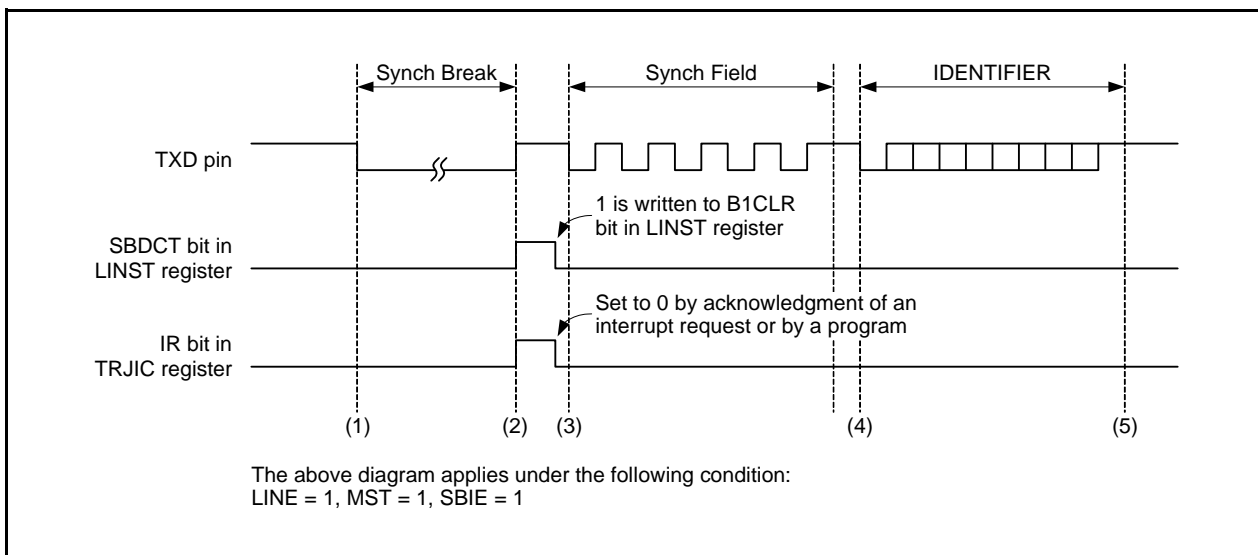
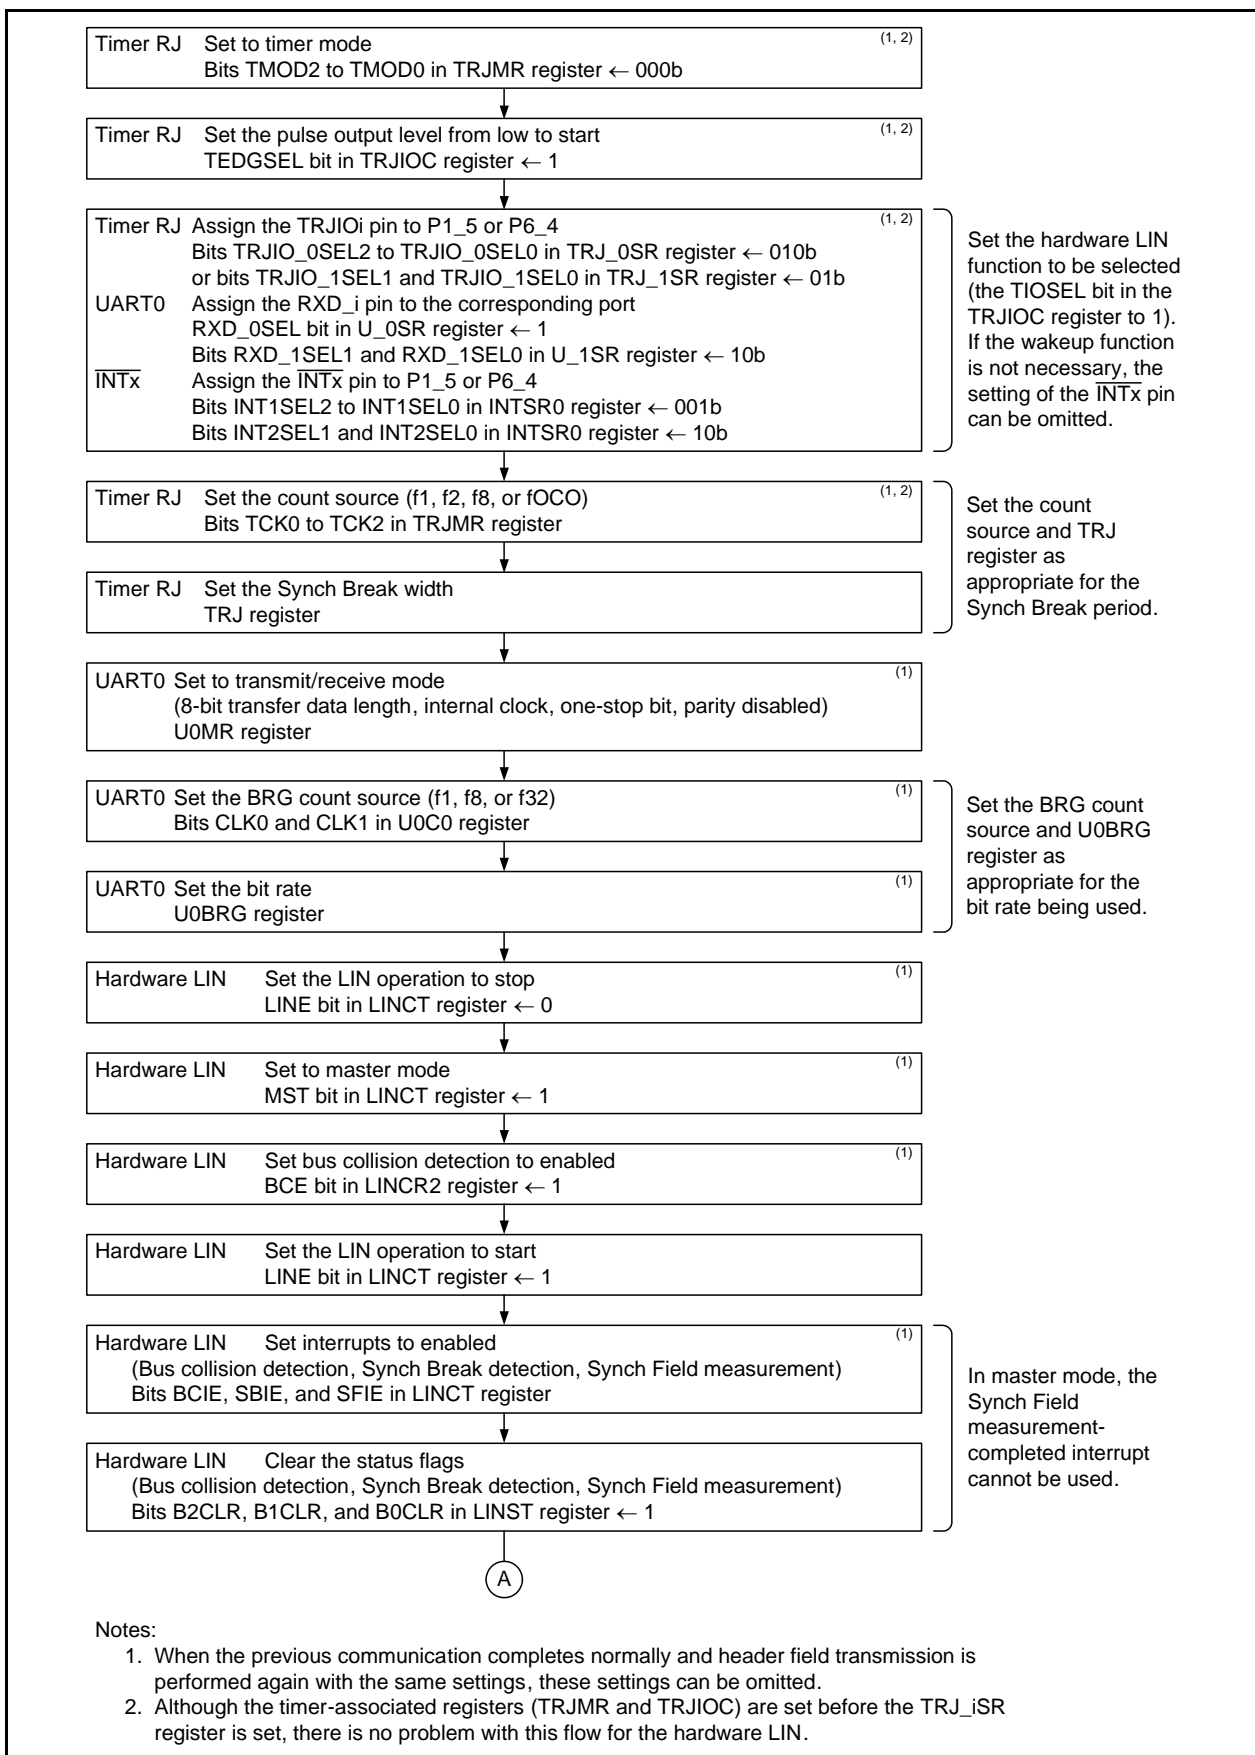
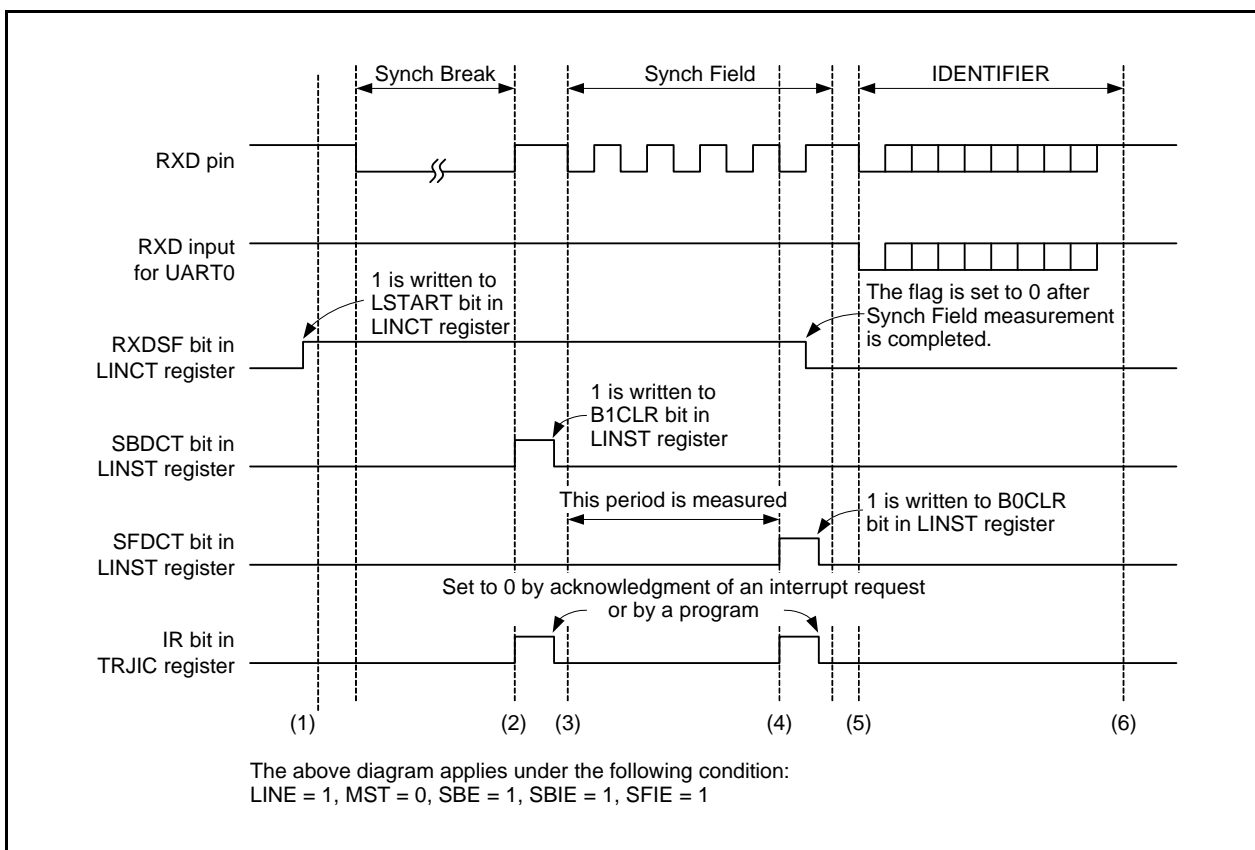
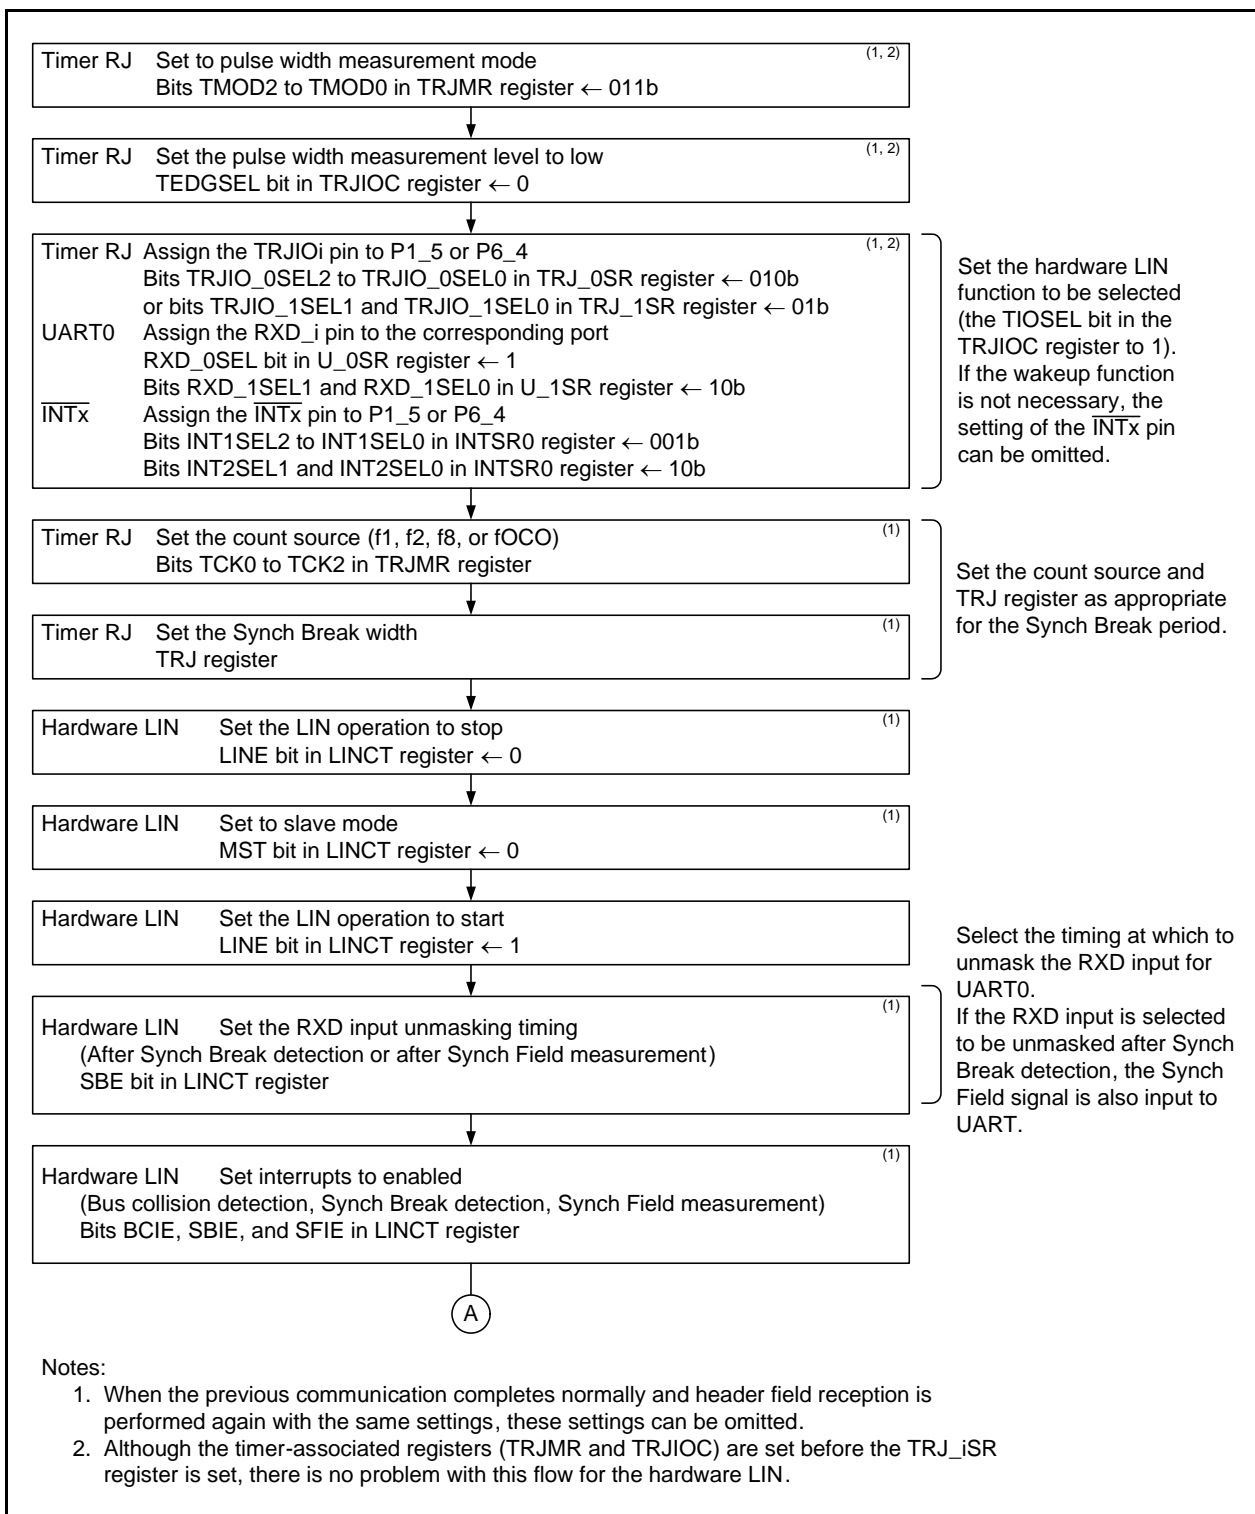

Figure 25.2 Operation Example during Header Field Transmission
Figure 25.3 Header Field Transmission Flowchart Example (1) (i = 0 or 1, x = 1 or 2)
Figure 25.5 Operation Example during Header Field Reception
Figure 25.6 Header Field Reception Flowchart Example (1) (i = 0 or 1, x = 1 or 2)
3. Inputs to timer RJ and UART are disabled immediately after the LINE bit is set to 1 (LIN operation starts). Refer to **Figures 25.3 and 25.4 Header Field Transmission Flowchart Examples** and **Figures 25.6 to 25.8 Header Field Reception Flowchart Examples**.
Figure 25.2 shows an Operation Example during Header Field Transmission master mode. Figures 25.3 and 25.4 show Header Field Transmission Flowchart Examples.
Figure 25.5 shows an Operation Example during Header Field Reception in slave mode. Figures 25.6 to 25.8 show Examples of Header Field Reception Flowchart.